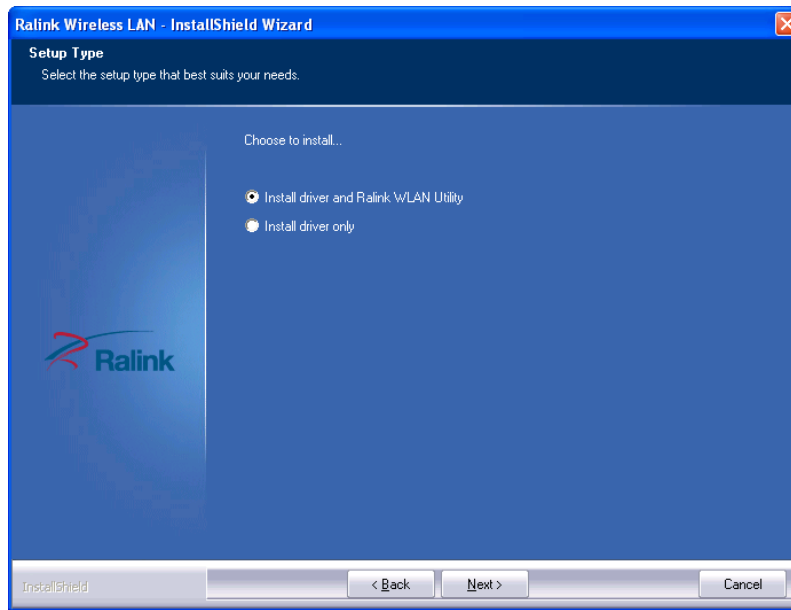

Figure 1-2: Setup Type
Step 5: The **Setup Type** screen in **Figure 1-2** appears.